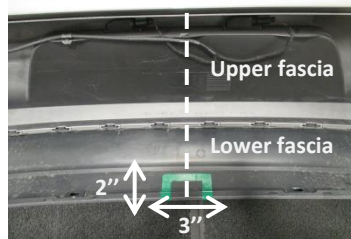

Figure 3
- Tape (4) 1/4" spacers ⑥ on both side brackets (spacer hole aligning with hitch slots). Raise hitch into position, over the exhaust, and feed the pull wires previously installed through holes on the hitch bar. Remove pull wires and loosely install conical washer ③ and hex nut ④ to the hitch. Bend the heat shield if needed.
- Make sure hole on the block aligns with slots on bracket. Loosely install (4) M8 bolts ⑤ and (4) conical washers ⑦ into existing bumper mounting weldnuts.
- Locate bottom center of lower fascia and trim 2" tall and 3" wide, as shown in Figure 3.